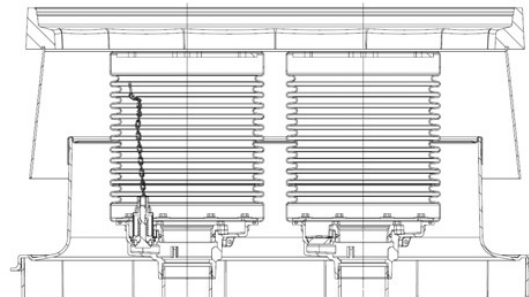

Figure 36
59. Using the 1-3100—TOOL (61SA-TOOL for P7XX or P5XX), tighten the spill container(s) onto the riser(s) with a minimum torque of 125 ft.-lbs. and a maximum torque of 250 ft.-lbs. See Figure 36.